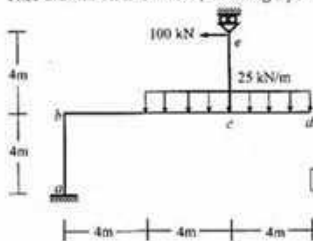

Fig. 1
1. Determine the degree of static indeterminacy (dosi) of the frame *abcde* shown in Fig. 1. Also draw its AFD and SFD, assuming a point of inflection at the midspan of column *ab*.